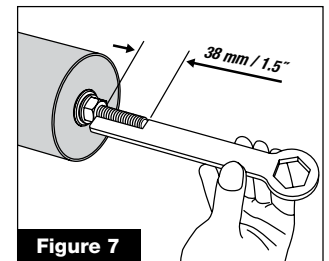

Figure 7
- 16 Continue tightening the compression nut until the correct length of thread is exposed. Check by using the notch on the handle of the spanner (**figure 7**).